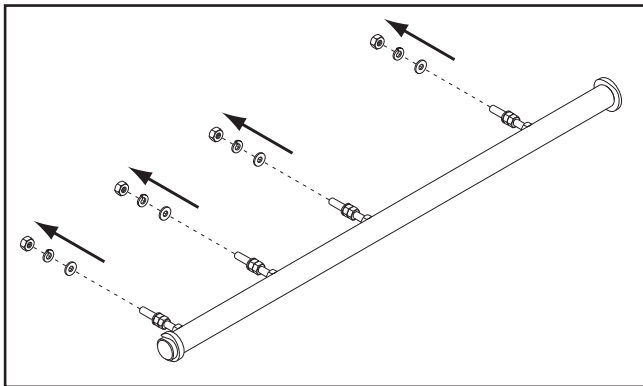

Figure 13. Hardware removed from fence rail studs to prepare for installation.
- The fence rail is pre-assembled with four rail studs and accompanying hardware. Remove one hex nut, flat washer, and lock washer from the end of each stud, as shown in **Figure 13**.